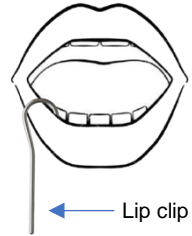

Fig. 5
2. Attach the lip clip to the patient – see Fig. 5.